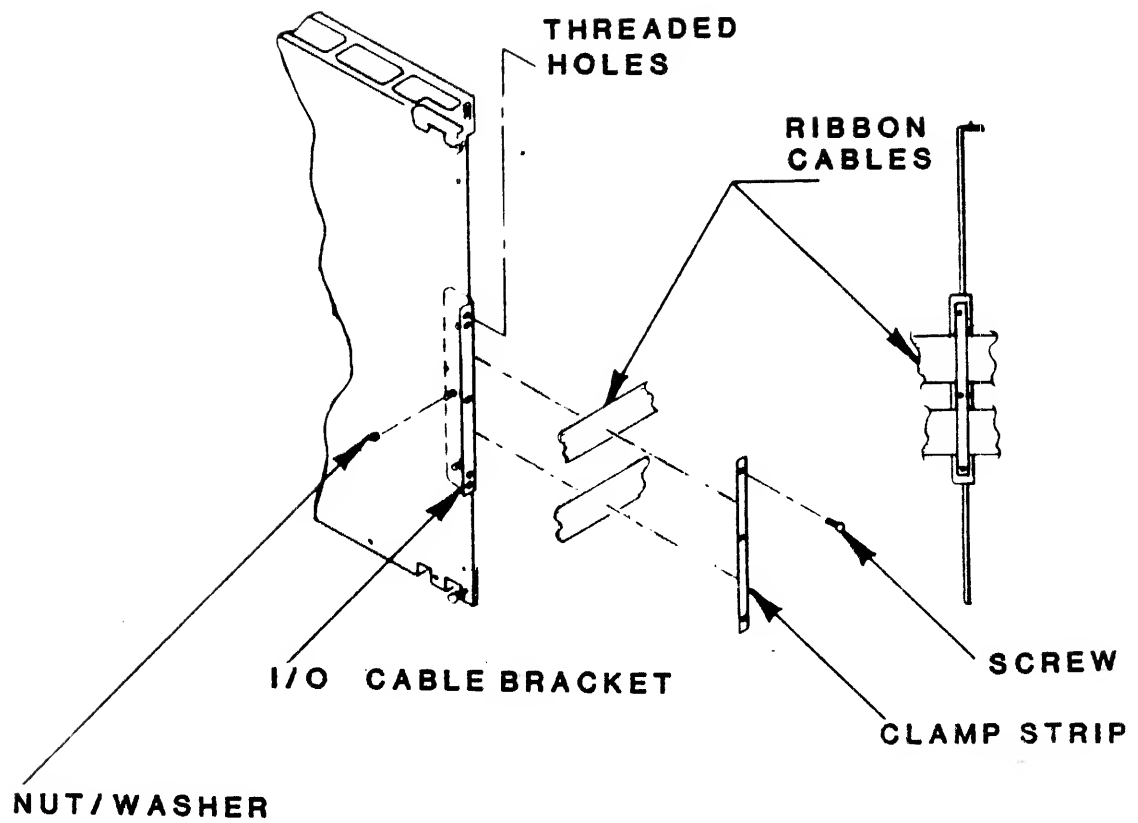

Figure 3-9. I/O RIBBON CABLE INSTALLATION
5. Mount the I/O cable bracket to the logic cage. See Figure 3-9. Secure the I/O cable bracket with 3 nuts with washers. See Figure 3-9.
7. Place the ribbon cables against the logic cage bracket. See Figure 3-9. Place the clamp strip over the cables and secure the clamp strip to the cable bracket with 3 screws and washers. See Figure 3-9. Be sure the clamp strip and the cable bracket make good contact against the ground shield of the ribbon cables. The top and bottom threaded holes in the cable bracket provide additional grounding points, as required. See Figure 3-9.